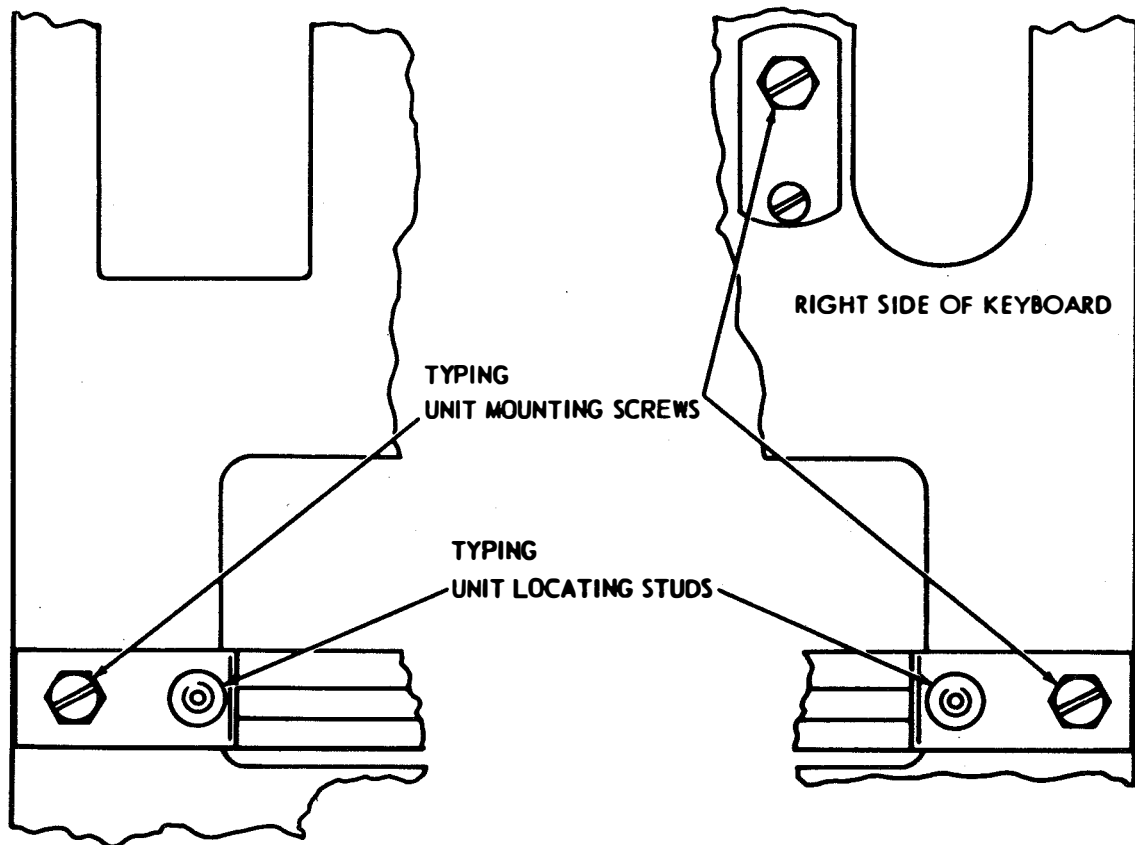

Figure 6-135. Mounting Typing Unit on Keyboard, Top View
(17) Mounting Typing Unit on Keyboard. Adjust as follows:
- (a) Refer to Figure 6-135.